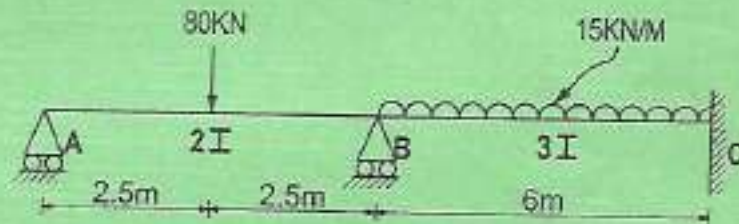

FIGURE 2
3. Using the three moments theorem, analyse the beam shown in figure 2. Plot the shear force and bending moment diagrams indicating values at critical points. (20 marks)